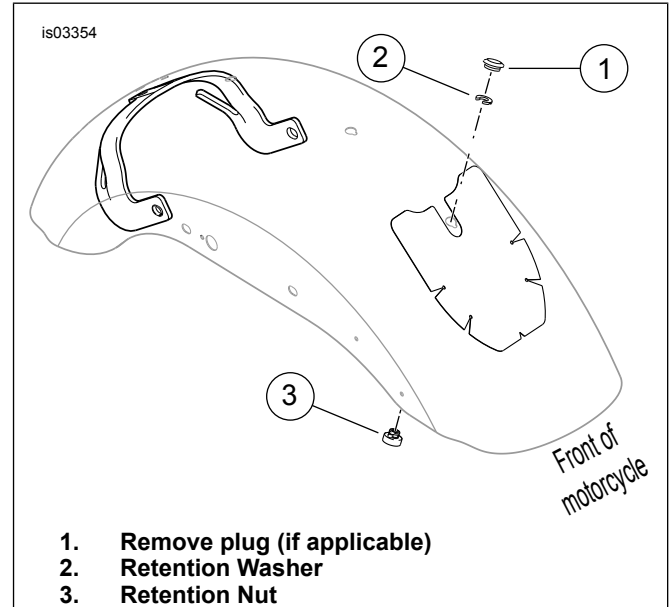

Figure 1. Seat Retention Nut and Washer Placement
1. If the original seat was a dual type, remove the plastic plug from the front seat mounting hole (see Figure 1).